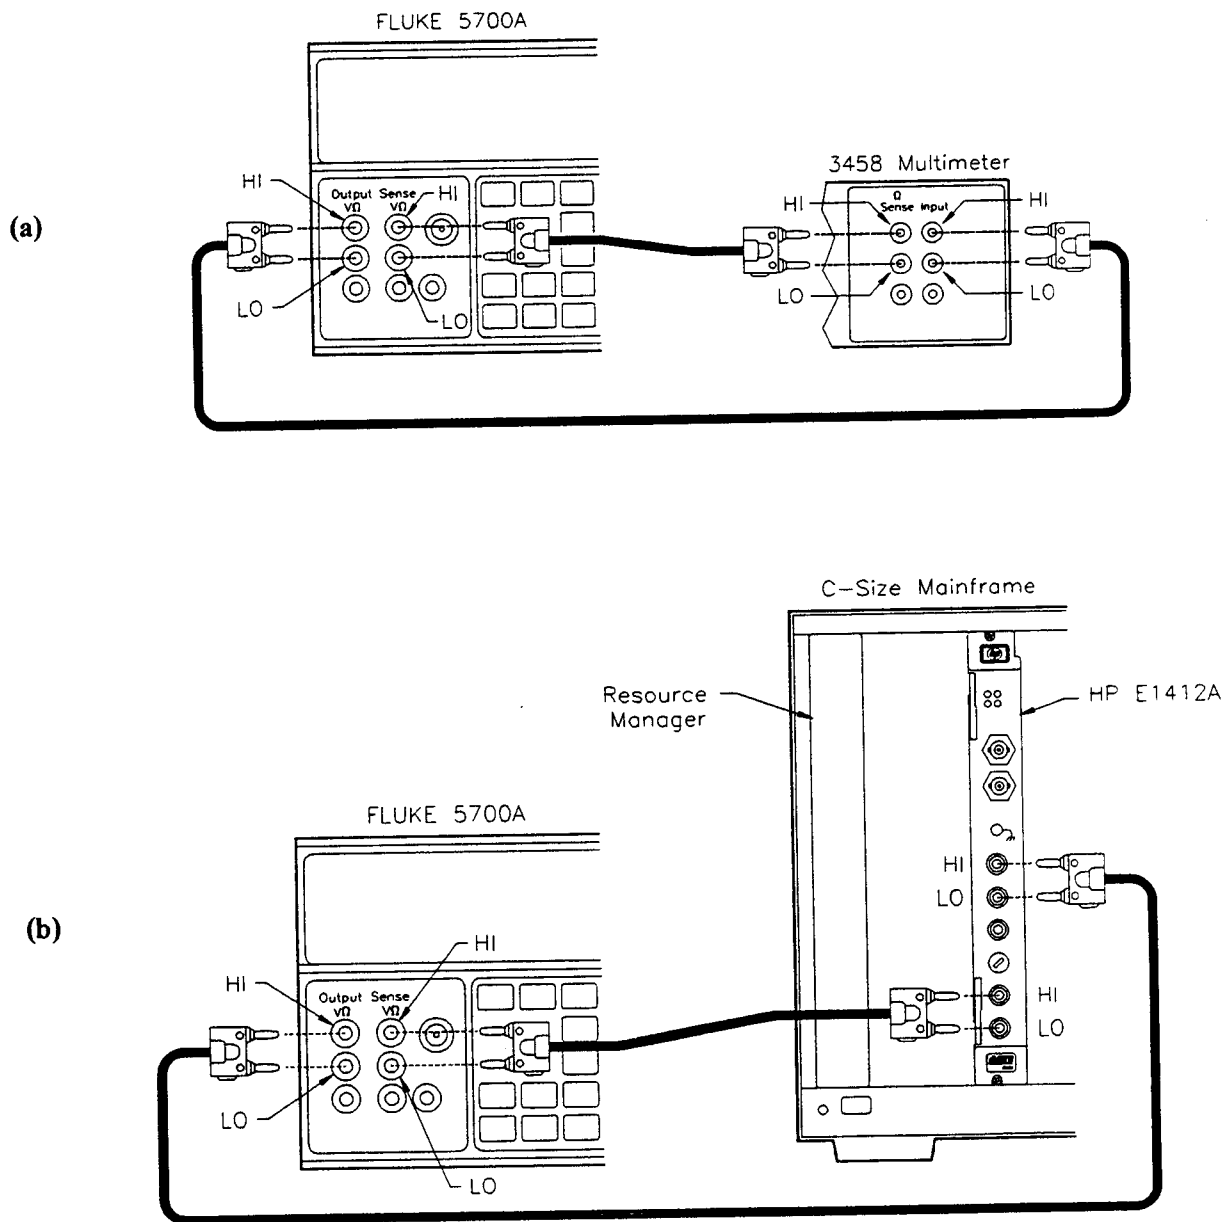

Figure 5-4. 4-Wire Ohms Gain Adjustment Setup
3. Measure the output of the Resistance Standard with the Transfer Standard DMM as shown in Figure 5-4(a) (optional). The Transfer Standard settings (offset compensation, auto-zero, etc.) and guarding should be identical to those used for the HP E1412A.
4. If used, disconnect the Transfer Standard. Using the same test leads, connect the Resistance Standard output to the terminals of the E1412A as shown in Figure 5-4(b).